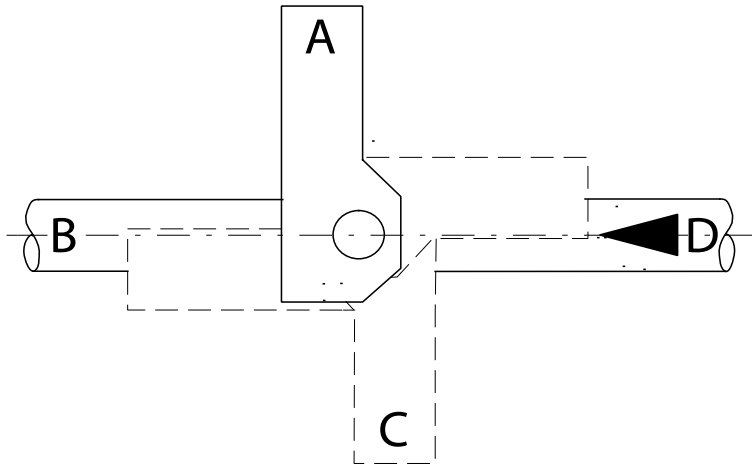

Fig.5-6 Actuator mounting position
5. Place the actuator with the bracket in the required (position A, B, C or D) (→ Fig.5-6) on the shaft of the valve body and fix the unit with the aid of the bolts (→ Fig.5-5/3).